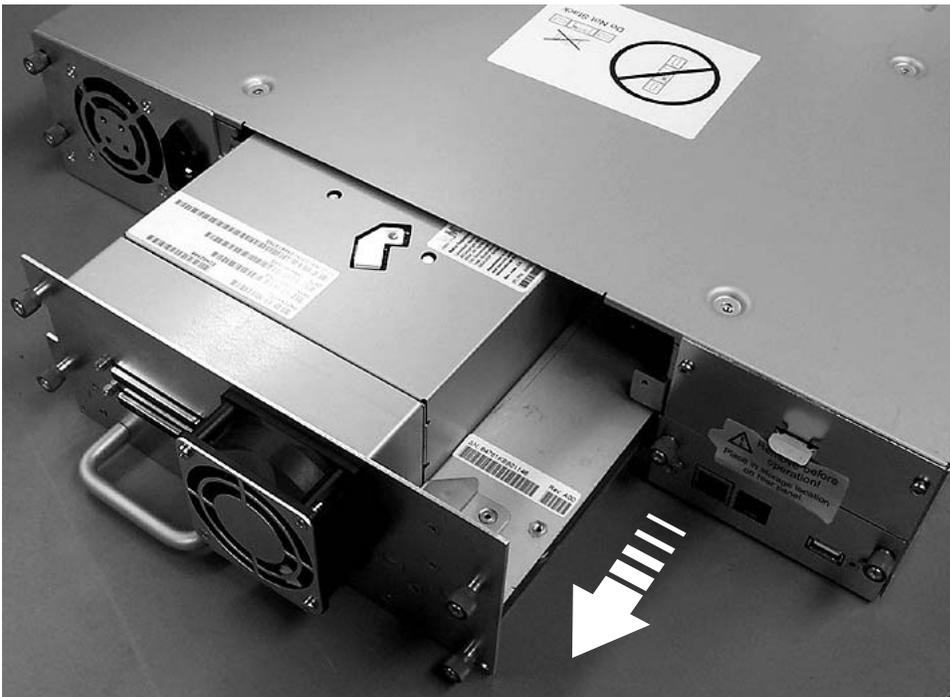

Figure 10-7. Pulling the drive sled out of the library (drive sled without ESD springs shown)
7. Pull straight back on the drive sled handle ( **10** ) to remove it from the library (see Figure 10-7).